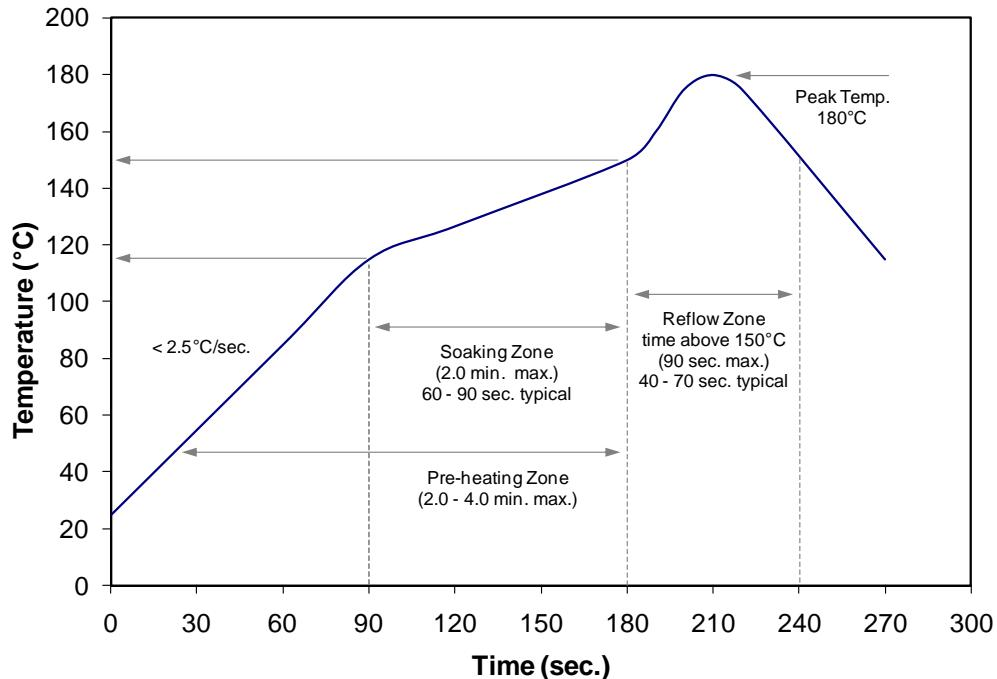

Figure 3: Reflow soldering profile for low temperature lead free soldering.
4. Use low temperature solders. LED Engin recommends 58Bi-42Sn (wt.%) Solder. See Reflow Soldering Profile Figure 3.
Notes for Figure 3: